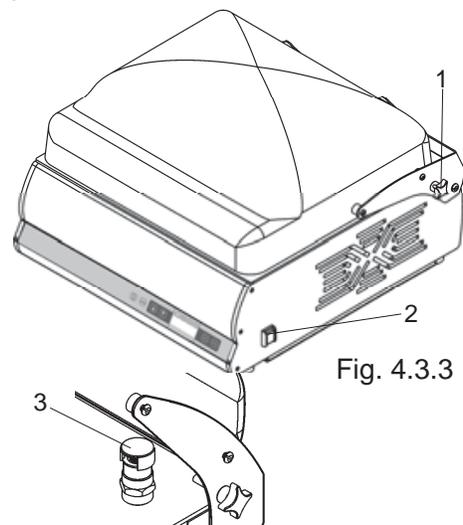

Fig. 4.3.3
2. Unscrew the black knob (ref. 1 fig. 4.3.3) to positioned on the right side of the machine, in order release the dome and start to work.
3. Turn the machine on using the switch (ref. 2 fig. 4.3.3) on the right side.
2. Loosen the black knob (ref. 1 fig. 4.3.3) positioned on the right side of the machine until the dome is released and the job can start.
3. Turn the machine on via the switch (ref. 2 fig. 4.3.3) on the right side. "OFF _____" will appear on the display.